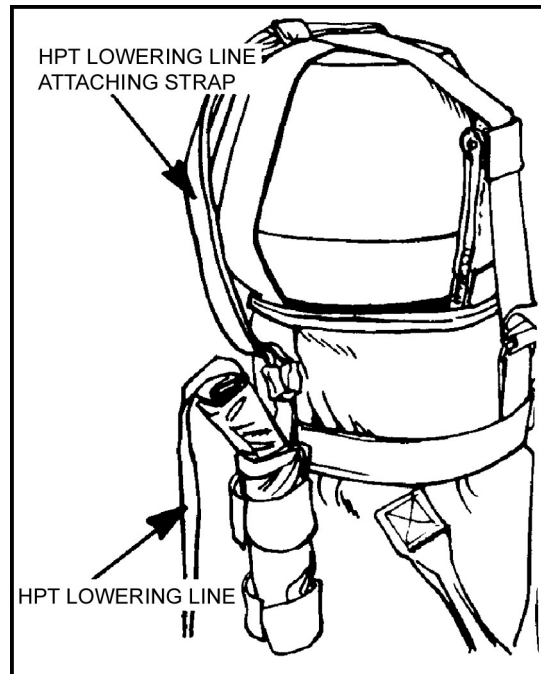

Figure 12-39. Lowering line.
(1) Attach the lowering line to the lowering line attaching strap by routing the looped end of the HPT lowering line through the looped end of the lowering line attaching strap (Figure 12-39). Route the lowering line through its own loop and pull tight, forming a girth hitch.